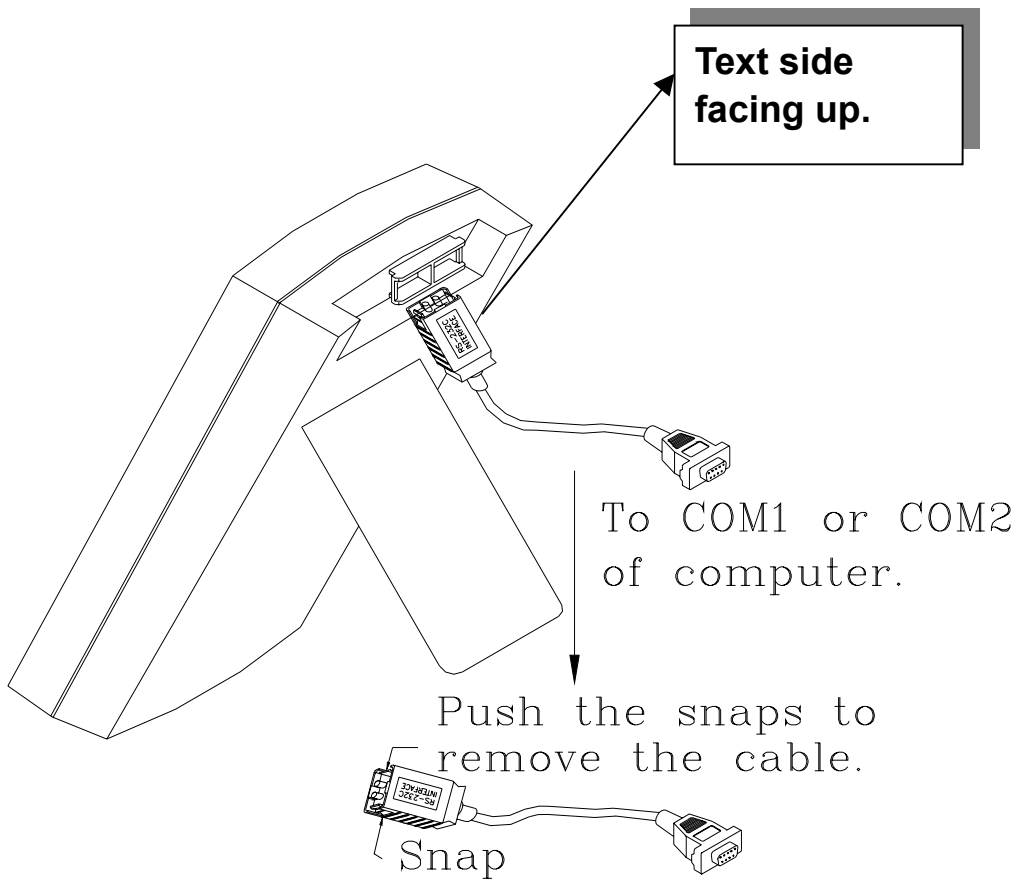

Figure-8. Cable Connection Of Communication
1. Fix one side of cable to the meter, with the text-side facing up. Connect the 9-pin terminal of cable to RS232 communication port 1 or 2 of personal computer. See the **Figure-8**.